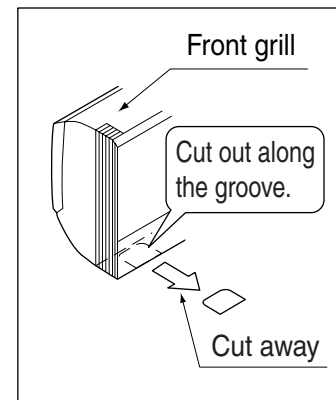

Fig. 4
- (a) Check the location for the hole using the included paper pattern for installation (3).
- (b) Temporarily attach the installation panel (1) at the temporary-securing position on the paper pattern for installation (3) and use a level to make sure the drain hose is either level or tilted slightly downward.
- (c) Secure the installation panel (1) to the wall using either screws or bolts.
- If using the attachment screws for the installation panel (2), attach using at least 4 screws on either side (for a total of 8 screws (07, 09, 12 type), 9 screws (18, 24 type)) of the recommended installation cleat position on the included paper pattern for installation (3).
(3) If using the left, bottom-left, or bottom-right positions for the piping, cut out the through-hole for the piping in the front grill. (Refer to Fig. 4)